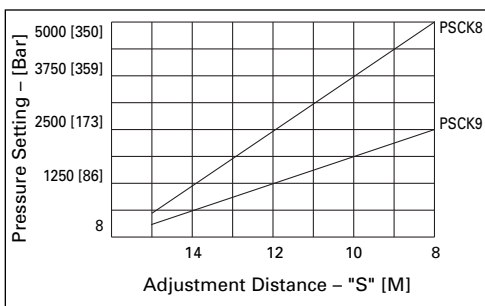

Figure 4, Graph
3. Tighten lock nut (3 FT-LBS [4-N-M]) clockwise while holding pressure setting with wrench. (See graph, Figure 4, for settings [graph is only a rough guideline; to find switching points more precisely use a pressure gauge]).
Note: Adjustment distance "S" in Figure 4 is measured from end of adjustment screw to the switch body (where lock nut snugs up against).